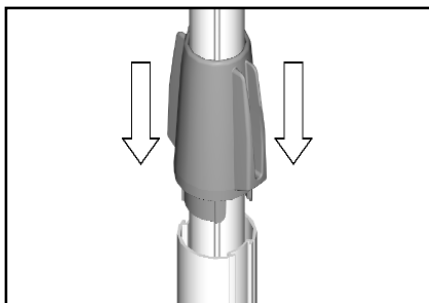

Figure 17
13. Remove the level from the post by sliding it up off the bottom portion of the post. Slide the blue locking handle down to fit into the bottom part of the post to lock the post in place (Figure 17).